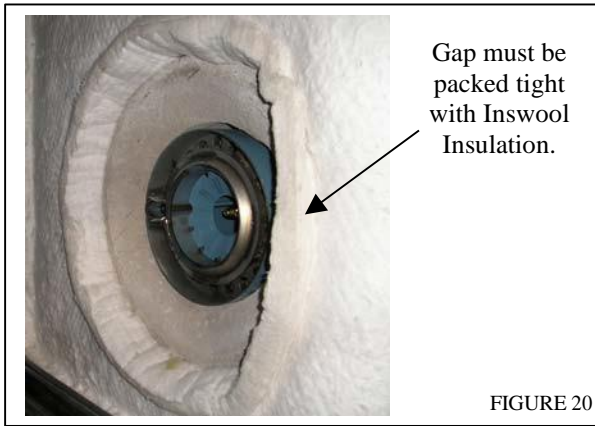
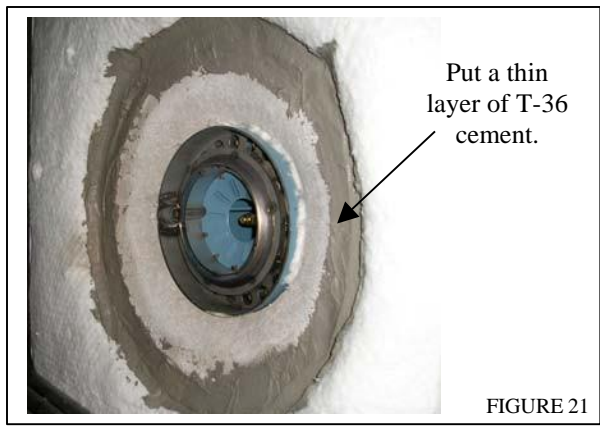

FIGURE 20
FIGURE 21
**NOTE:** Make sure that the white blanket insulation is not pushed back. Inspect the blanket from inside the boiler. Secure the plug with clips and nuts provided. There will be a gap around the burner plug when it is installed in the flue collector end. This gap must be packed tight with Inswool (white blanket). See figure 20. Extra blanket is provided for you to do this. **The burner plug MUST be properly packed with white blanket insulation or the manufacturers warranty is null and void.** After it is packed, put a thin layer of T-36 cement around the seam you just packed. See figure 21. The cement is provided from the factory in a bucket marked "T-36".